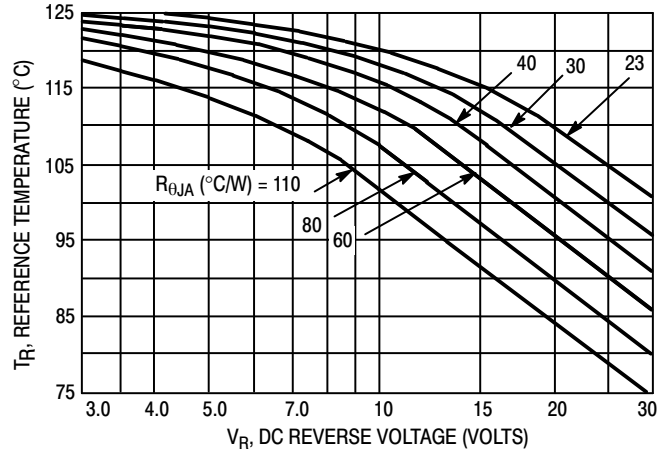

Figure 2. Maximum Reference Temperature 1N5818
Step 2. Find T_R from Figure 2. Read $T_R = 109^\circ\text{C}$